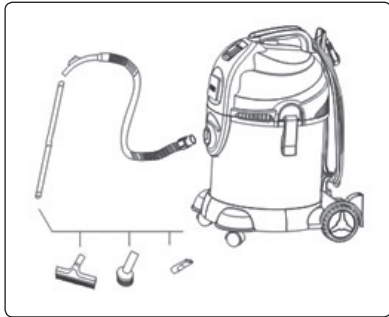

Fig. 8
- 4a) On to the hose end with the handle, attach the stainless steel telescopic tube, on the end of which attach the floor nozzle for vacuuming large areas or the brush nozzle or the narrow crevice nozzle (fig. 8).